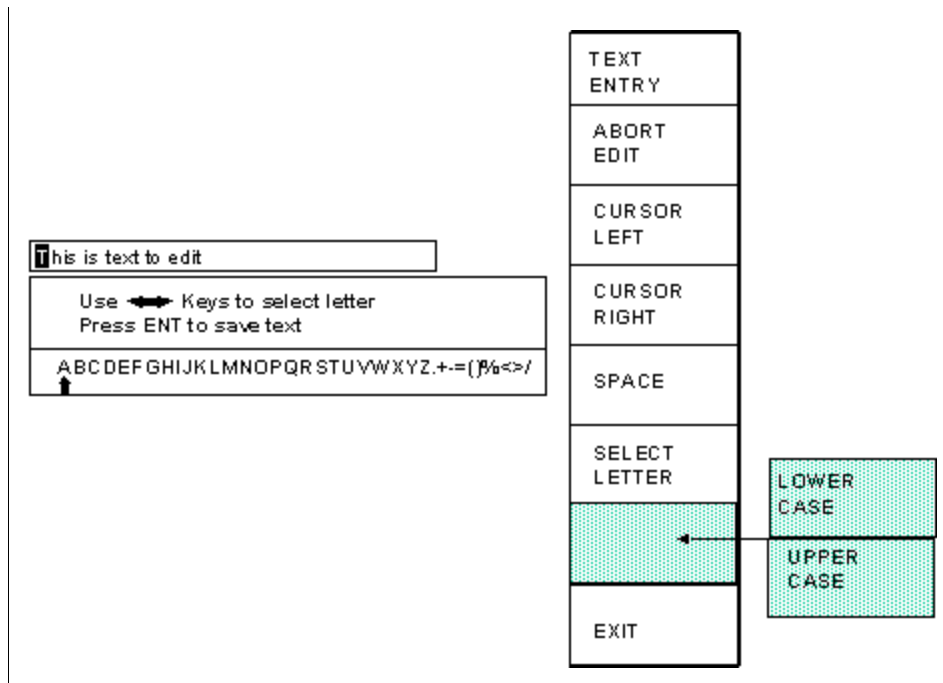

Figure 2.1: Example Text Entry
- b) The topmost softkey will usually say something along the lines of “CHANGE XXXXXX” where XXXXXX is the name of the value to be changed. It may also simply say “CHANGE TEXT.” In any case, hit this softkey to enter text entry mode. The right-hand softkeys will change, a letter selection box will appear, and the editing cursor will change to a rectangle around the text to be edited. Figure 2.1 shows the softkeys and an example text parameter.